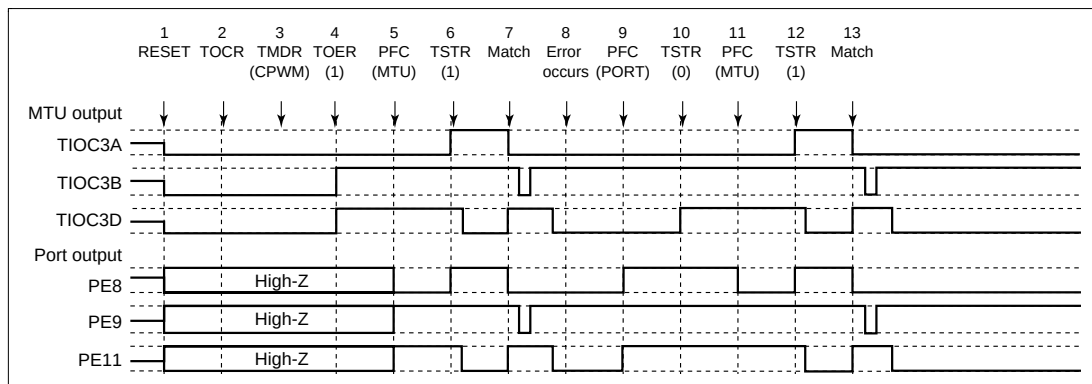

**Figure 12.118 Error Occurrence in Complementary PWM Mode, Recovery in Complementary PWM Mode**
**(23a) Operation when Error Occurs during Complementary PWM Mode Operation, and Operation is Restarted in Complementary PWM Mode:** Figure 12.118 shows an explanatory diagram of the case where an error occurs in complementary PWM mode and operation is restarted in complementary PWM mode after re-setting (when operation is restarted using the cycle and duty settings at the time the counter was stopped).